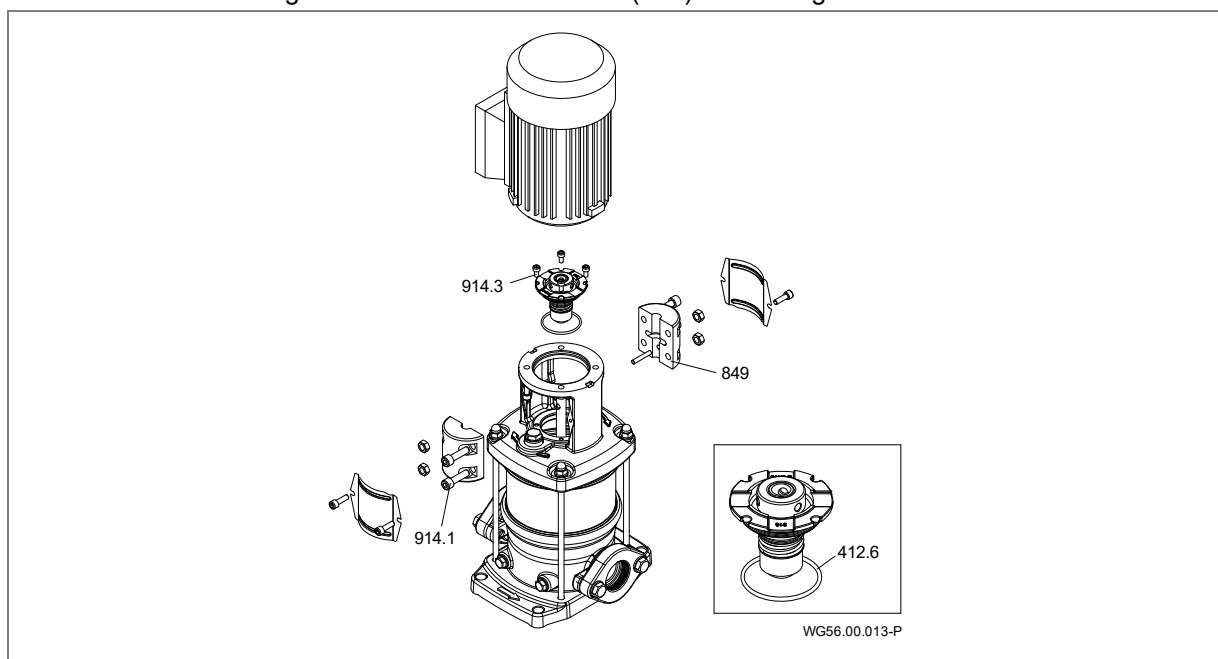

Fig. 17
See "Fig. 17" on page 31
- ➔ Observe figure 17.
- 2. Assemble the rotating unit of the mechanical seal (433) on the shaft sleeve.
- 3. Assemble the O-ring and the counter ring of the mechanical seal (433) in the discharge cover (471).
- 5. Slide the discharge cover (471) onto the shaft sleeve.
- 7. Slide the shaft sleeve onto the shaft (211) and push the discharge cover (471) into the drive lantern (161).